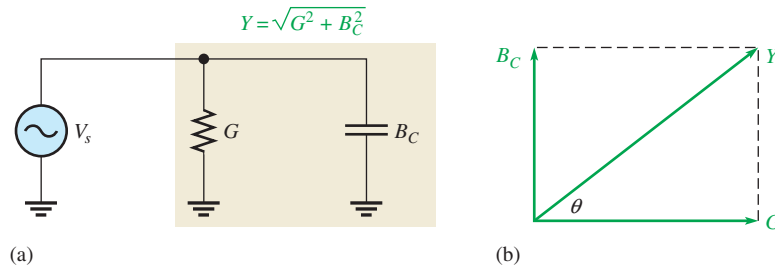

FIGURE 26
In working with parallel circuits, it is often easier to use conductance (G), capacitive susceptance (B_C), and admittance (Y) rather than resistance (R), capacitive reactance (X_C) and impedance (Z). In a parallel RC circuit, as shown in Figure 26(a), the total admittance is the phasor sum of the conductance and the capacitive susceptance, as shown in Figure 26(b).